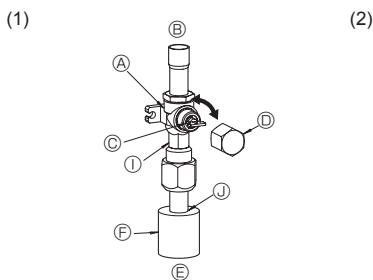
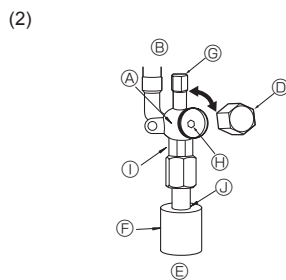

Fig. 4-5
Fig. 4-6
- (1) Gas side (Fig. 4-5)
- ① Remove the cap, pull the handle toward you and rotate 1/4 turn in a counterclockwise direction to open.
- ② Make sure that the stop valve is open completely, push in the handle and rotate the cap back to its original position.
- (2) Liquid side (Fig. 4-6)
- ① Remove the cap and turn the valve rod counterclockwise as far as it will go with the use of a 4 mm hexagonal wrench. Stop turning when it hits the stopper. (ø9.52: Approximately 10 revolutions)